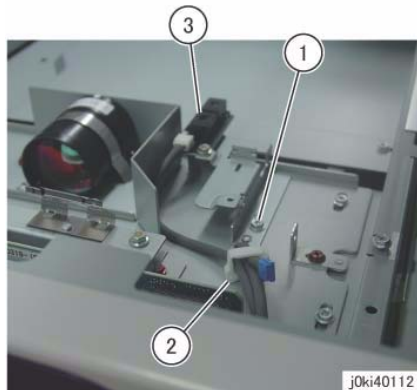

Figure 1 Move the APS Sensor
4. Move the APS Sensor. (Figure 1)